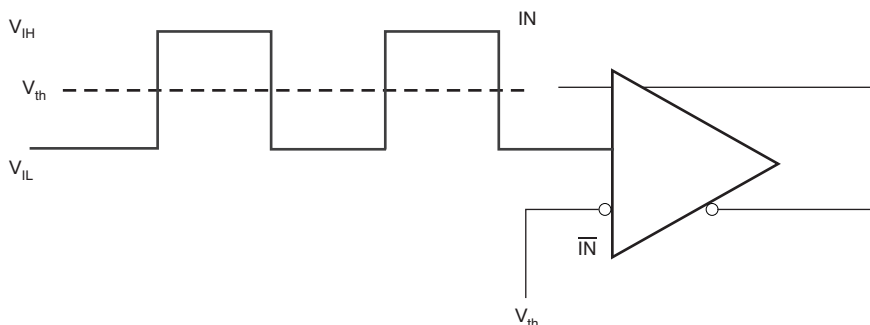
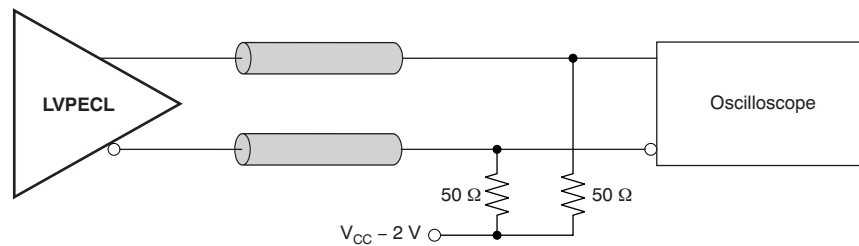
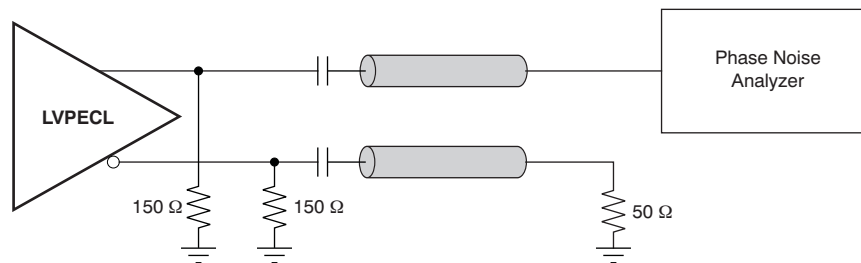

Figure 3. DC-Coupled LVCMOS Input During Device Test
Figure 8. LVPECL Output DC Configuration During Device Test
Figure 9. LVPECL Output AC Configuration During Device Test
(1) Figure 8 and Figure 9 show dc and ac test setup.
This section describes the function of each block for the CDCLVP2108. Figure 3 through Figure 9 illustrate how the device should be setup for a variety of test configurations.